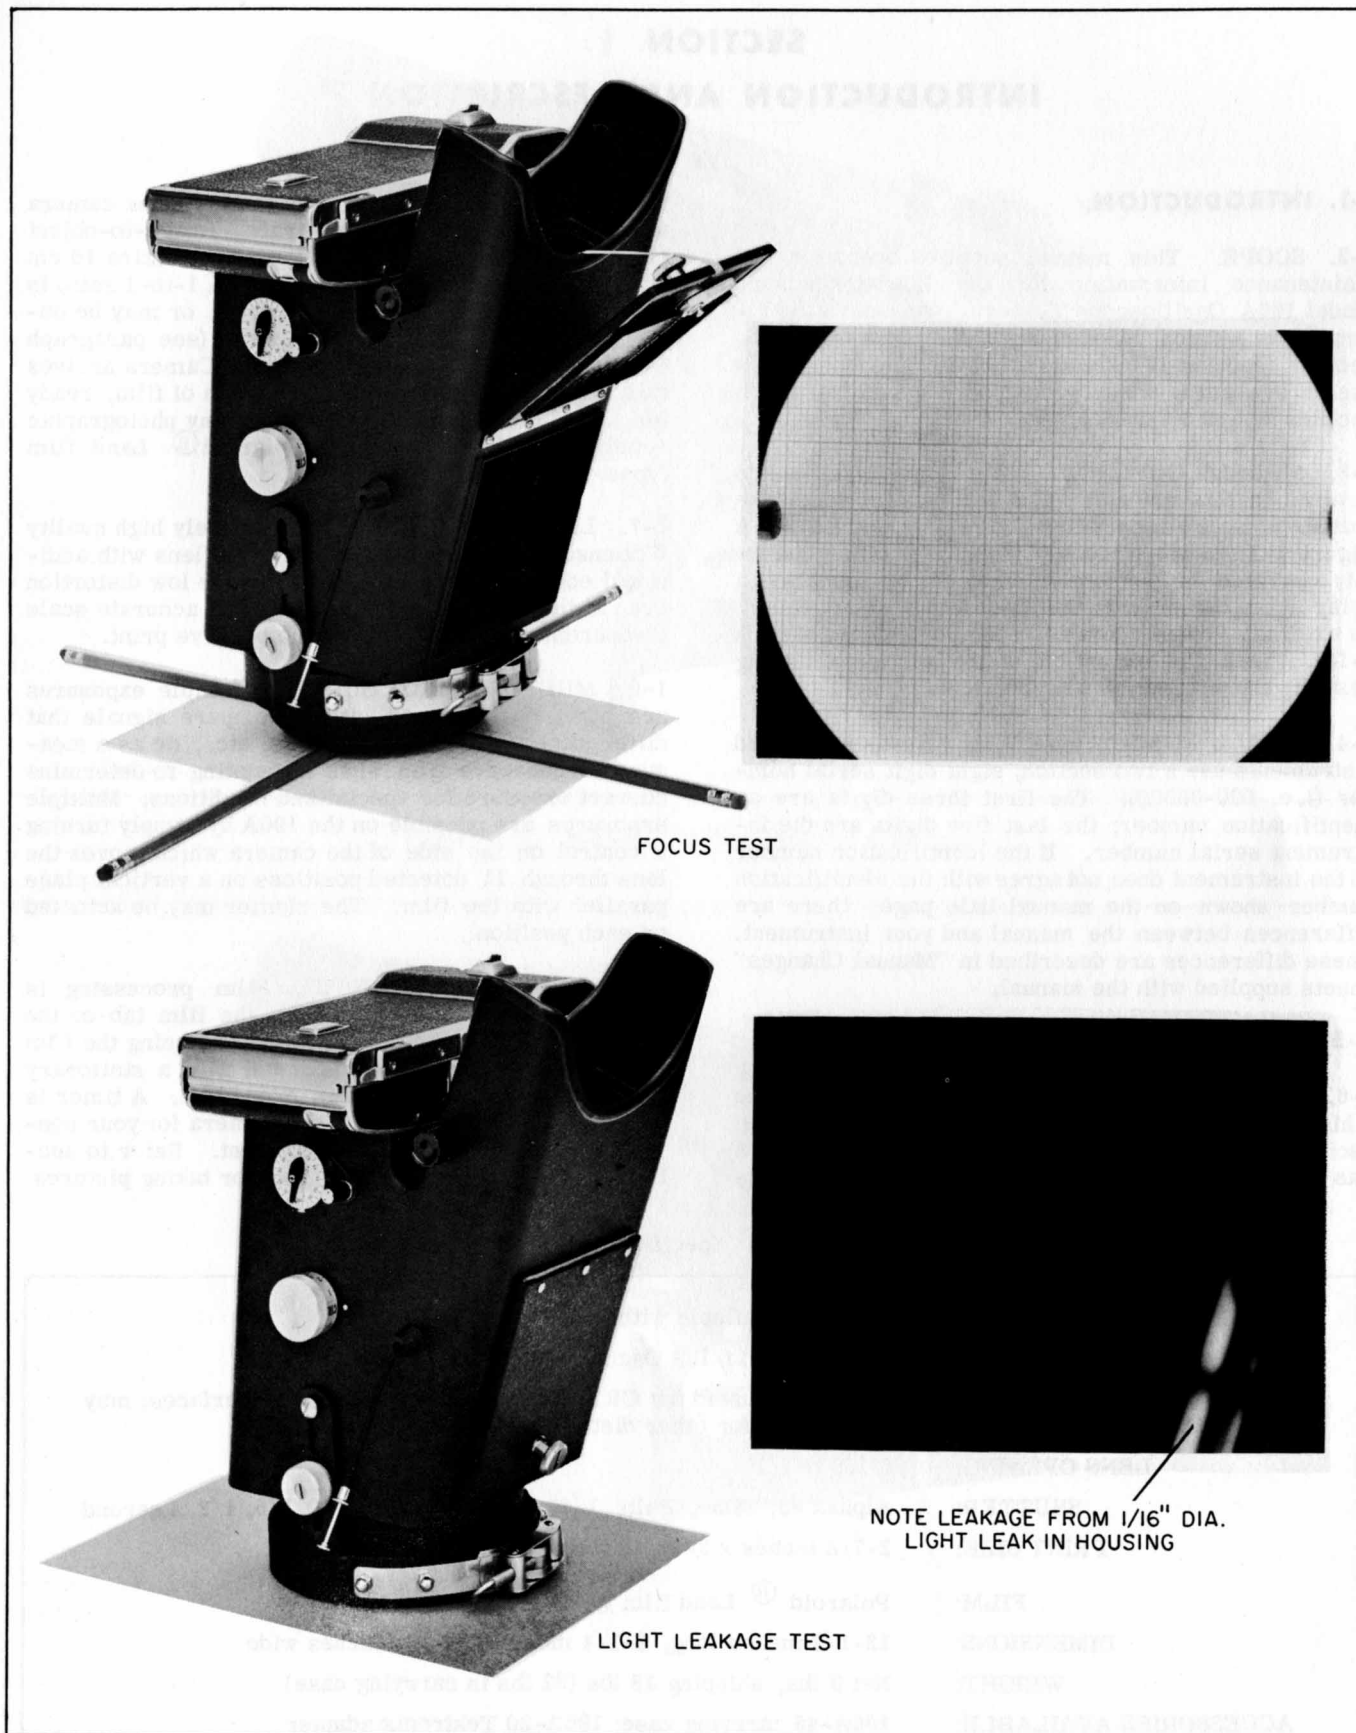

Figure 2-1. Operational Check
i. Arrange four identical hexagonal pencils (about  $5/16$  inch from flat to flat) in a circle as shown in figure 2-1. Slide the clamp ring back toward the camera itself and tighten the locking screws.
m. Actuate the shutter and develop the picture. The lines on the graph paper should appear well defined over the entire picture area (figure 2-1).